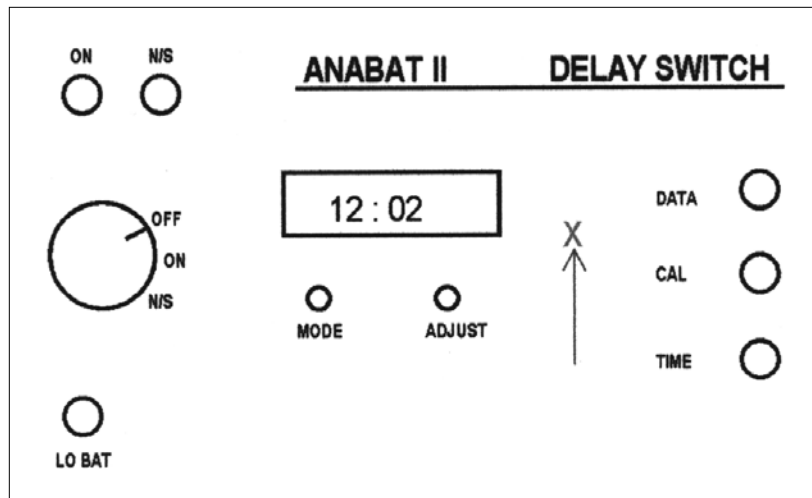

Figure 9—The “X” indicates where the light sensor is located on the inside of the front panel.
**Remounting the night sensor**—To remount the night sensor, open the delay switch case. Notice the dimple on the inside of the front panel at the location shown by the “X” in figure 9. The sensor normally is glued to the inside of the panel at the “X” location and senses light through the plastic facing that covers the aluminum panel body. The delay switch will be upside down, so the dimple will be on your left. If a dimple is located at the indicated spot, the night sensor will be hanging loose nearby. The sensor and its proper mounting location are shown in figure 10.